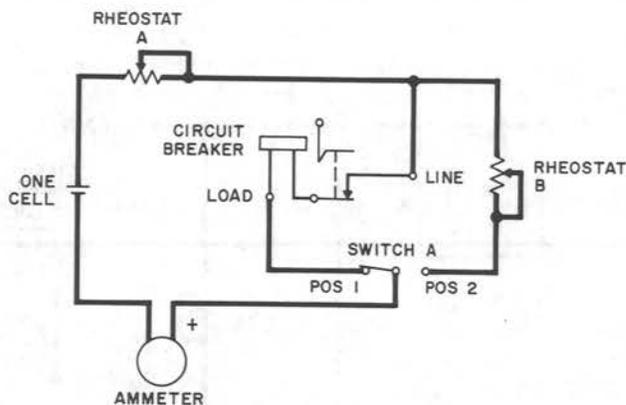

Fig. 21—Checking Circuit—DC Breakers—KS-5648
- (c) **KS-5926:** To check a KS-5926 circuit breaker, proceed in accordance with Methods 1 and 3. Refer to Fig. 21, 25, 31, and 34. Check each pole separately as shown by options 1, 2, and 3.
- (f) **KS-15739:** To check a KS-15739 circuit breaker, proceed in accordance with Methods 1 and 2 as applicable. In following Method 2, adjust the current to 200 percent instead of 125 percent of the breaker rating. Refer to Fig. 21, 22, and 23. Check each pole separately as shown by options 1 and 2.
- (y) **KS-21597:** To check a KS-21597 circuit breaker, proceed in accordance with Method 2 except adjust current to 125 percent of the breaker rating instead of 120 percent. Refer to Fig. 21. Check each pole separately as shown by options 1 and 2.